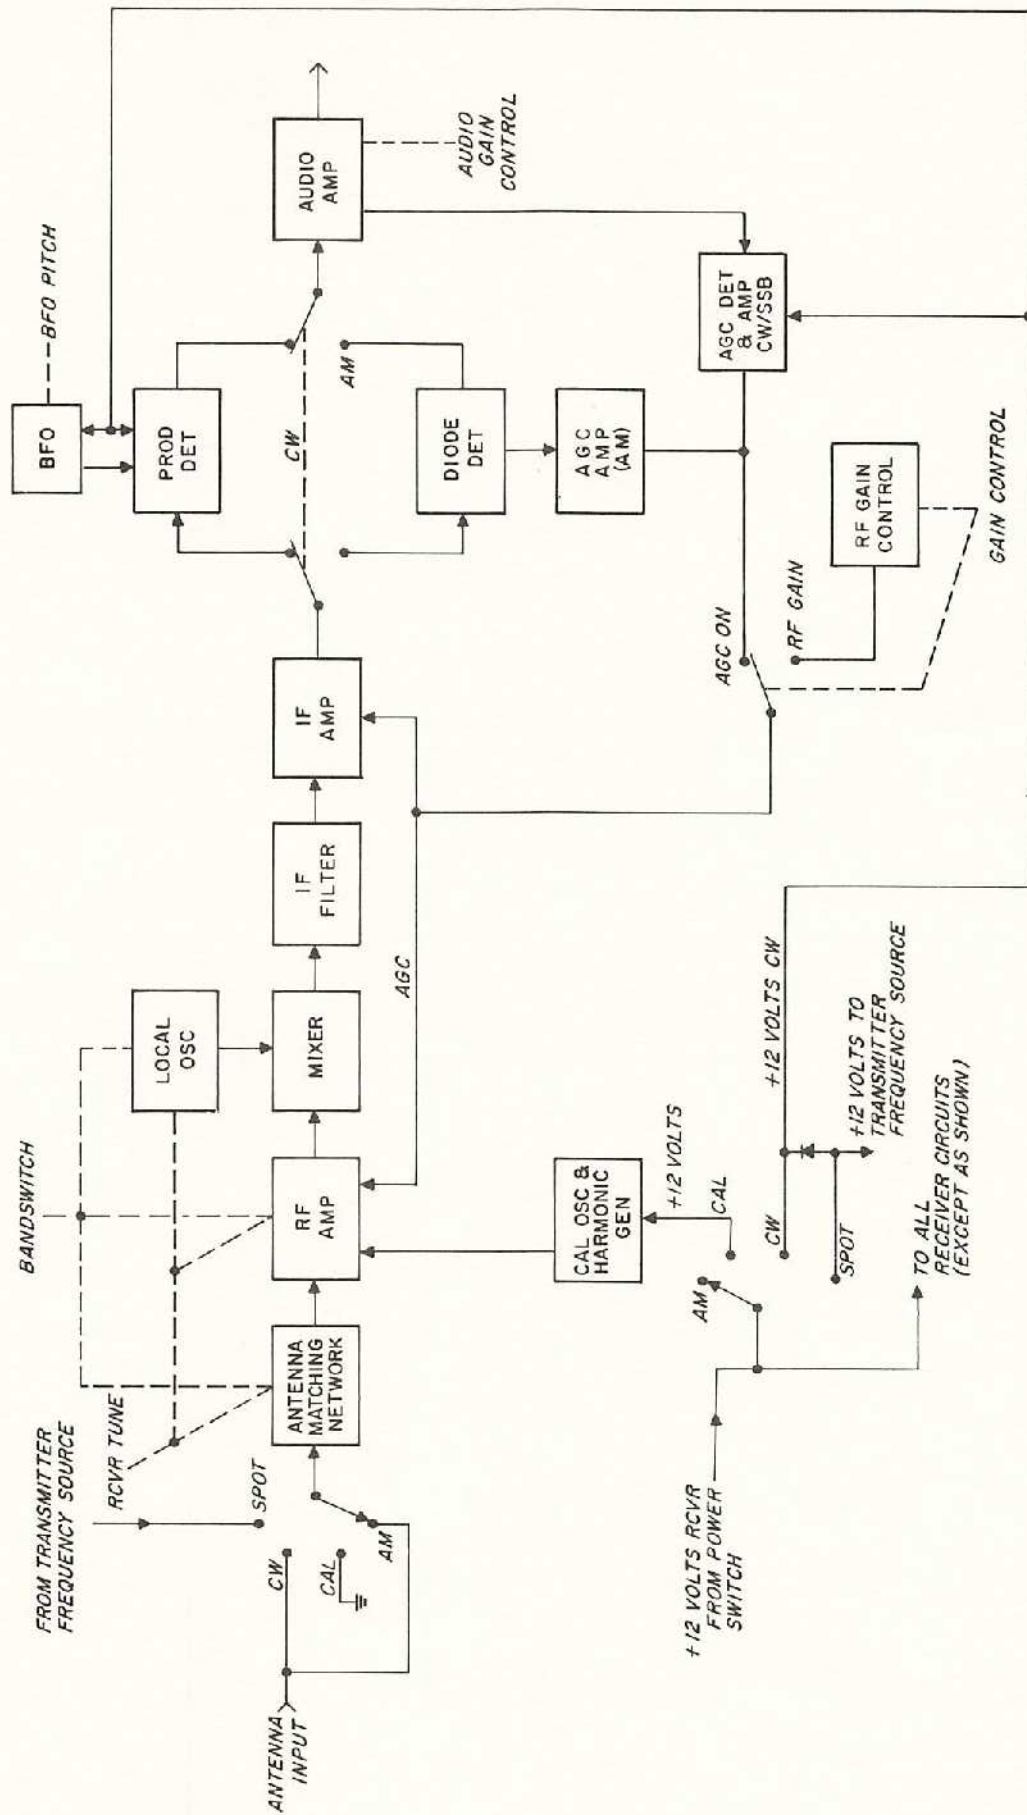

Figure 3-1. RR-224 Block Diagram
- (1) Figure 3-1 Block Diagram
As shown in figure 3-1, the antenna matching network consists of a bandswitched, single-tuned circuit to match a 50-ohm source to the RF amplifier input. The RF amplifier provides gain stability and high output impedance. The output is fed to the mixer. The mixer heterodynes the RF amplifier output with the output of the capacitor-tuned common-base local oscillator. The RF output of the mixer is coupled directly to a narrow-band ceramic ladder filter. The center frequency of the IF filter is 455 kHz with a -6db bandwidth of 6 kHz \pm 0.6 kHz. The output signal of the IF filter is fed to the IF amplifier where it is amplified to a detectable level. In the AM mode, the IF output signal is applied to a conventional diode envelope detector which has two outputs. One output controls the AM-AGC amplifier and the other controls the audio amplifier. In the CW mode, the IF output of the IF amplifier is fed to a product detector where it is mixed with the BFO output and then fed to the audio amplifier and the CW-AGC amplifier. The BFO is adjustable over \pm 3 kHz for the signal conversion in the product detector in CW mode. A front panel switch applies either the AGC amplifier output or the RF gain control output to the AGC bias to adjust the gain of the RF amplifier and the first and second stages of the IF amplifier. The audio amplifier is capable of a minimum one milliwatt output across a 500-ohm load.